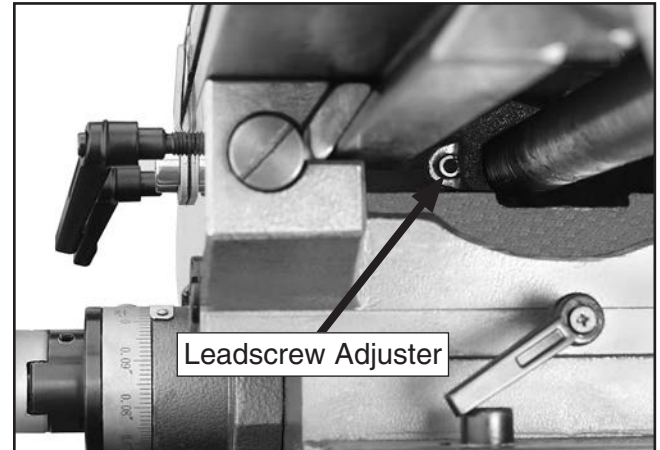

Figure 61. X-axis leadscrew adjuster.
- Locate the X-axis leadscrew adjuster shown in **Figure 61** under the middle of the table. The head on the adjustment screw faces to the right.